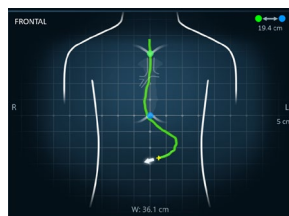
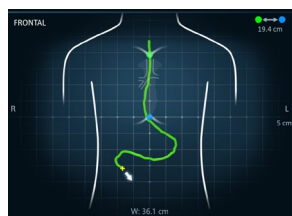
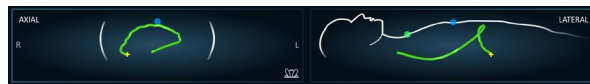

Figure 3
Figure 4
Figure 5
14. Slowly advance the tube into the stomach or small intestine as desired. Refer to the display to aid proper placement. Advance the tip of the tube across the greater curvature of the stomach (refer to Figure 3), watching the track as it crosses the mid-line into the duodenum. Some manipulation of the proximal end of the tube may be needed to encourage the passage across the mid-line. Refer to the display until advancement across the mid-line and into the duodenum occurs (refer to Figure 4).
15. The tip passing the midline axis on the display suggests passage into the duodenum. An increase in depth, as indicated on the Axial View or Lateral View (refer to Figure 5) would be a further indication of duodenal placement. The tube track traversing back across the midline (as indicated in Figure 4), suggests placement of the feeding tube in the small intestine.